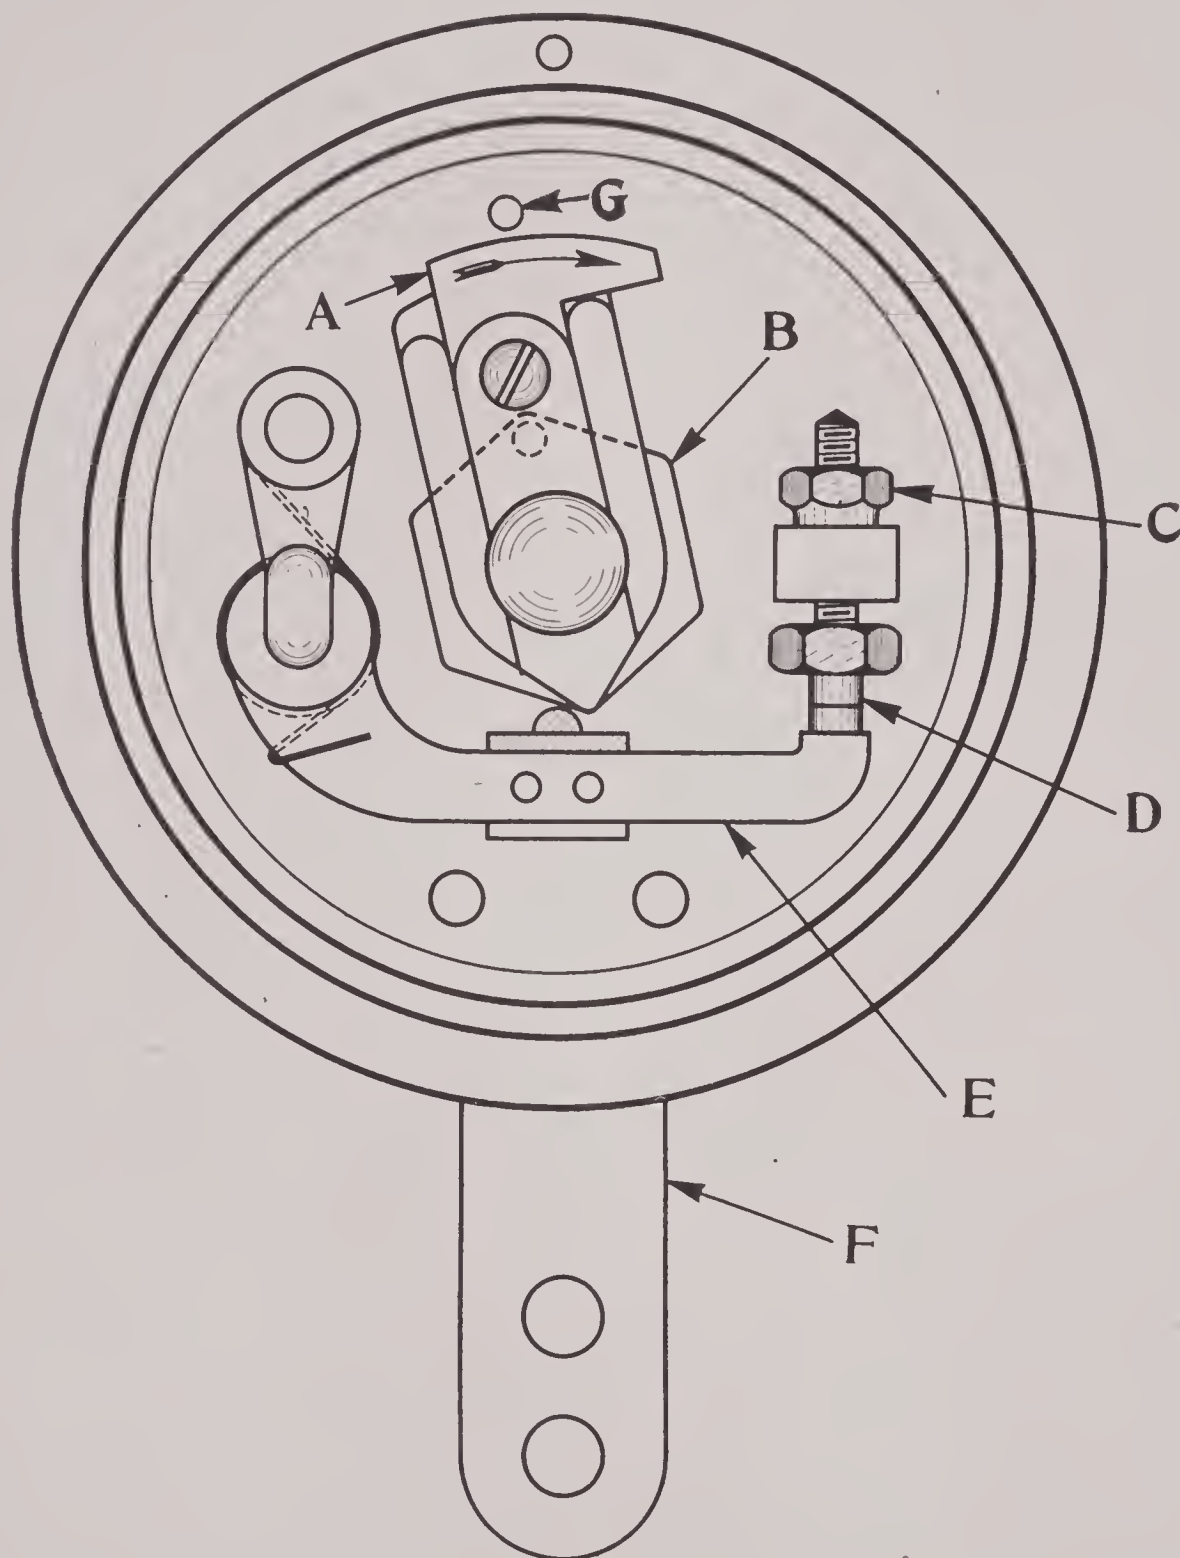
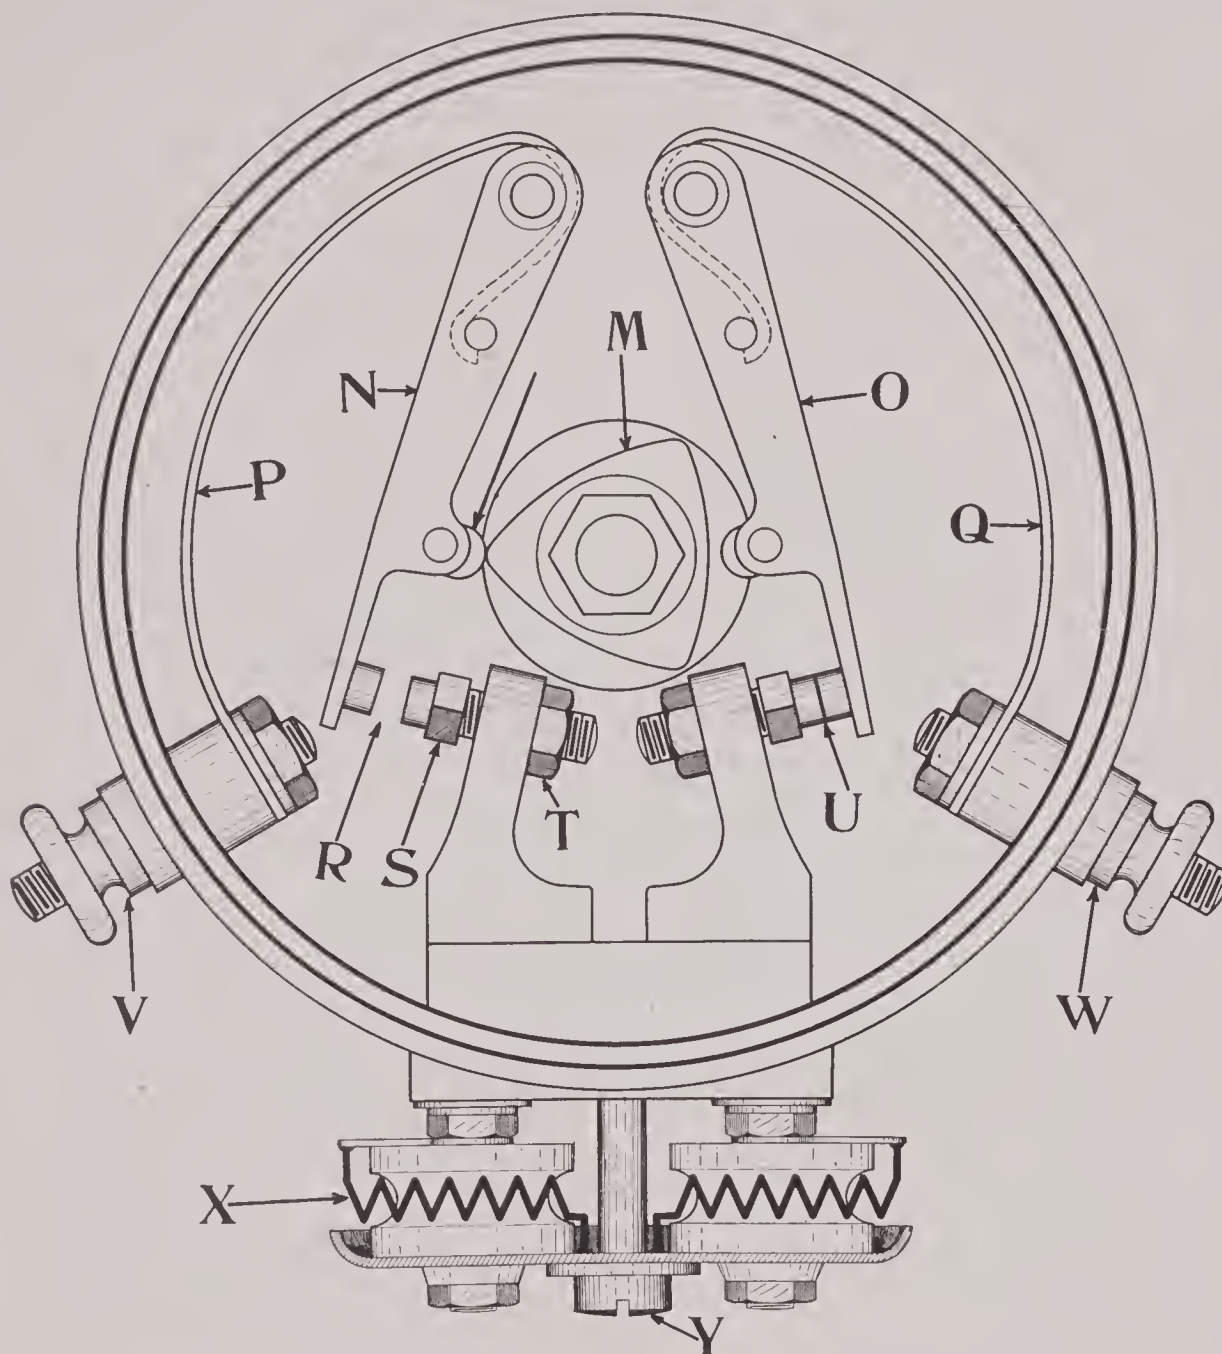

FIG. 238
FIG. 246
engines differs in general from the one cylinder system in that the breaker cam usually has as many lobes as there are cylinders in the engine and a distributor is added to distribute the secondary current to the different spark plugs. The illustration in Fig. 238, and the illustration in Fig. 246, show typical six cylinder breakers. The cam is driven at half crankshaft speed as in the one cylinder system. The gears through which the cam is driven are so meshed that a
In the closed circuit type breaker the spring forces the points together and the cam separates them. (See Figs. 238 and 246.) The cam is usually so constructed that breaker remains closed a little longer than open. This is done
Fig. 238 shows a Remy distributor-breaker and distributor brush. The cam is locked on
N. and O. Breaker arms—not grounded as in Fig. 246.